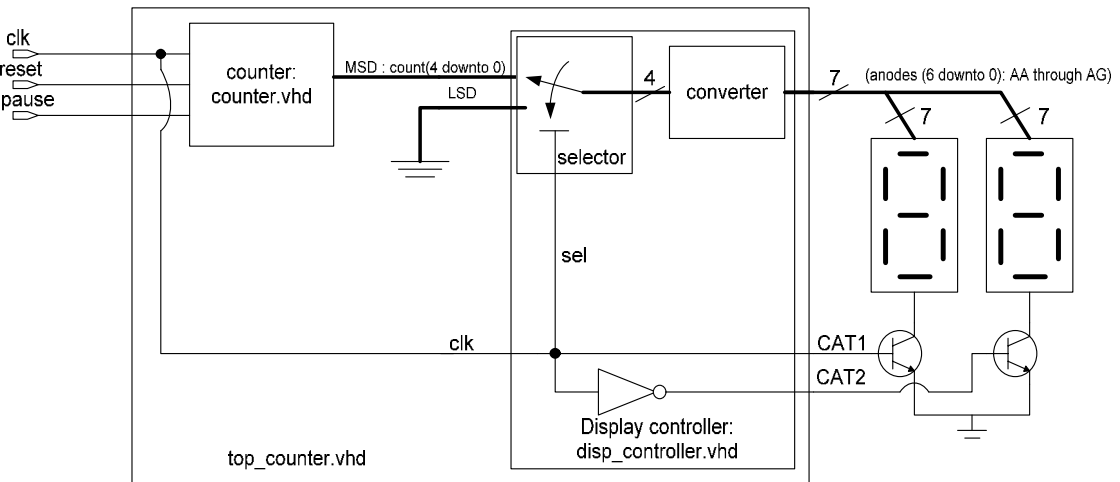

Figure 4; Complete system to be implemented in this lab
The design of the whole system will follow a modular scheme. We will first describe and simulate a counter, then a display controller, and finally the whole system. A block diagram of the whole system is shown in figure 4.
Now we will create a VHDL file to integrate the counter and the display controller in a single system (figure 4).
4. Components instantiations; Once the components are declared, they must be instantiated. This means the connections between components and/or signals inside the system must be declared. The declaration area for components instantiations is under the comment – *Components Instantiations* – in the top_counter.vhd file. Use the inverter instantiation as an example. Use the block diagram in figure 4 as a map to complete the connections.